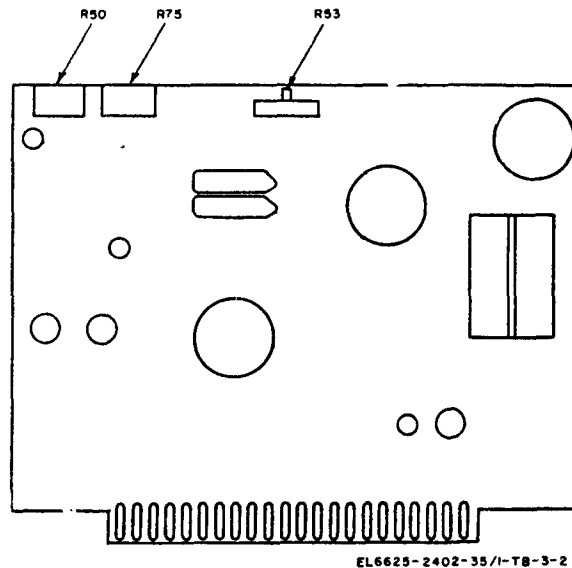

Figure 3-2. Component assembly A3.
(3) Set calibrator FUNCTION SELECTOR switch to SWP REF AM.
(4) Multimeter indicates between 72.9 and 73.1 vdc.
b. Adjustments Adjust UUT 75 V RAMP ADJ R75 (fig. 3-2) for multimeter indication of 73.0 vdc.
(2) Connect multimeter to calibrator SCOPE ACVM connector with cable assembly (1-8) and adapter (1, 7).
(3) Set calibrator FUNCTION SELECTOR switch to ANODE/START AMP.
(4) Multimeter indicates between -0.010 and +0.010 vdc (8690A), or -0.100 and 0+.100 vdc (8690B) .
b. Adjustments. Adjust UUT RAMP ZERO ADJ R53 (fig. 3-2) for multimeter indication of 0.00 vdc.
(1) Turn UUT MANUAL SWEEP control fully counterclockwise.
(2) Set calibrator FUNCTION SELECTOR switch to HELIX FDBK STOP RMP.
(3) Multimeter indicates between -0.010 and +0.010 vdc (8690A), or -0.400 and +0.400 vdc (8690B) .
b. Adjustments. Adjust UUT R50 (fig. 3-2) for multimeter indication of 0.00 vdc.